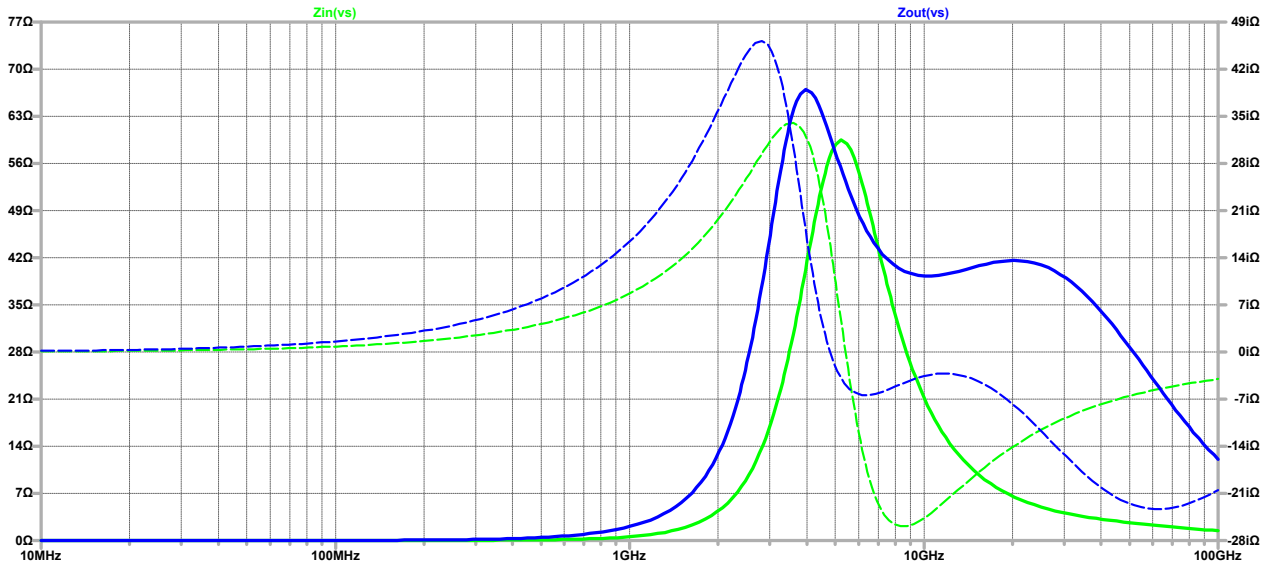

Figure 16: Input and output impedance with minimum S_{11} and S_{22} .
- (b) Matching the minimum of S_{11} and S_{22} to be at 5.5GHz. After some fine tuning, the matching element values are shown in Table 5. The specifications of the resulting LNA are shown in Table 6, with the simulated results in Figure 16, 17, and 18.